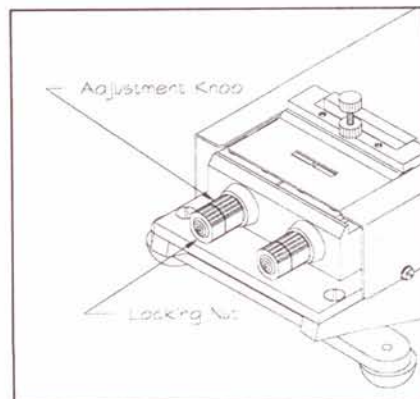

Figure 1
1. Loosen the two locking nuts securing the adjustment knobs shown in figure 1.